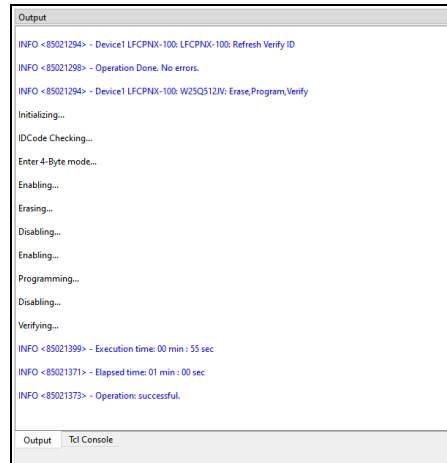

Figure 6.17. Message on Successful Programming
6. Verify that the programming status is **Operation: successful** in the output window, as shown in Figure 6.17. To activate the flashed bitstream, power cycle the CertusPro-NX Versa Evaluation board by switching it **OFF**, then **ON**.